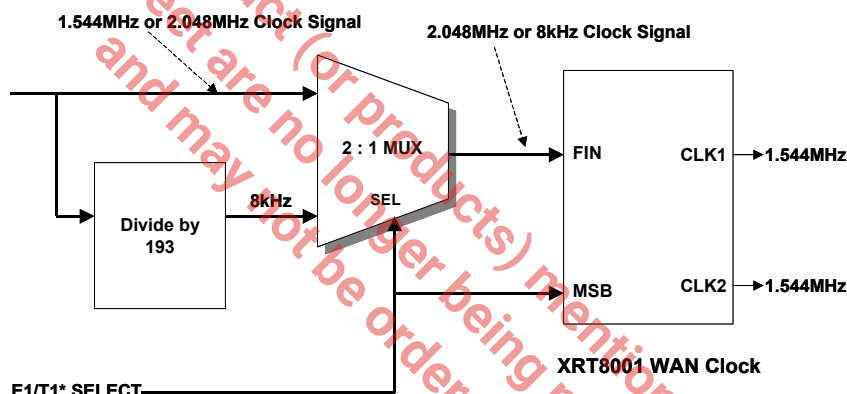
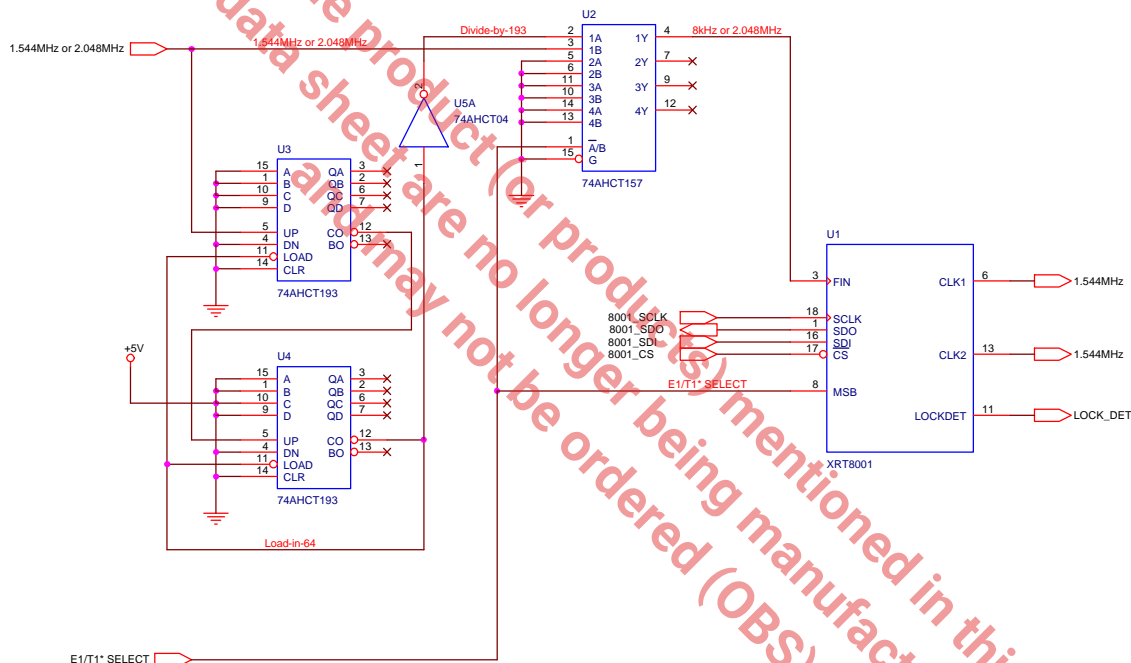

Figure 23: Synthesizing a 1.544MHz clock signal from a 1.544MHz or 2.048MHz clock
Figure 24: Hardware Design Implementation of Figure 23.
In Figure 23, the 1.544MHz or 2.048MHz input clock signal is routed to two locations.
Figure 23 also includes a digital “E1/T1\* SELECT” signal. This signal is connected to both the “SEL” input of the “2:1 MUX” and the “MSB” input of the XRT8001 WAN Clock. The basic idea behind this schematic is as follows:
Figure x presents a simple block diagram of a design that can accept either a 1.544MHz or a 2.048MHz clock signal, and synthesize a 1.544MHz clock signal. Now we need to provide some details. Hence, Figure 24 presents a circuit schematic which realizes the function, depicted in Figure 23.
Next, we describe how to configure the circuitry in Figure 24 to accept a 2.048MHz clock signal, and configure it to synthesize a 1.544MHz clock signal by executing five steps. We also describe how to accept a 1.544MHz clock signal and configure it to synthesize a 1.544MHz clock.
## Configuring the Circuitry in Figure 24 to accept a 1.544MHz clock signal and synthesize a 1.544MHz clock signal.
Once the user has executed these four (4) steps, then the circuitry in Figure 24 is configured to accept a 1.544MHz clock signal (from the T1/E1 LIU) and synthesize a 1.544MHz clock signal.